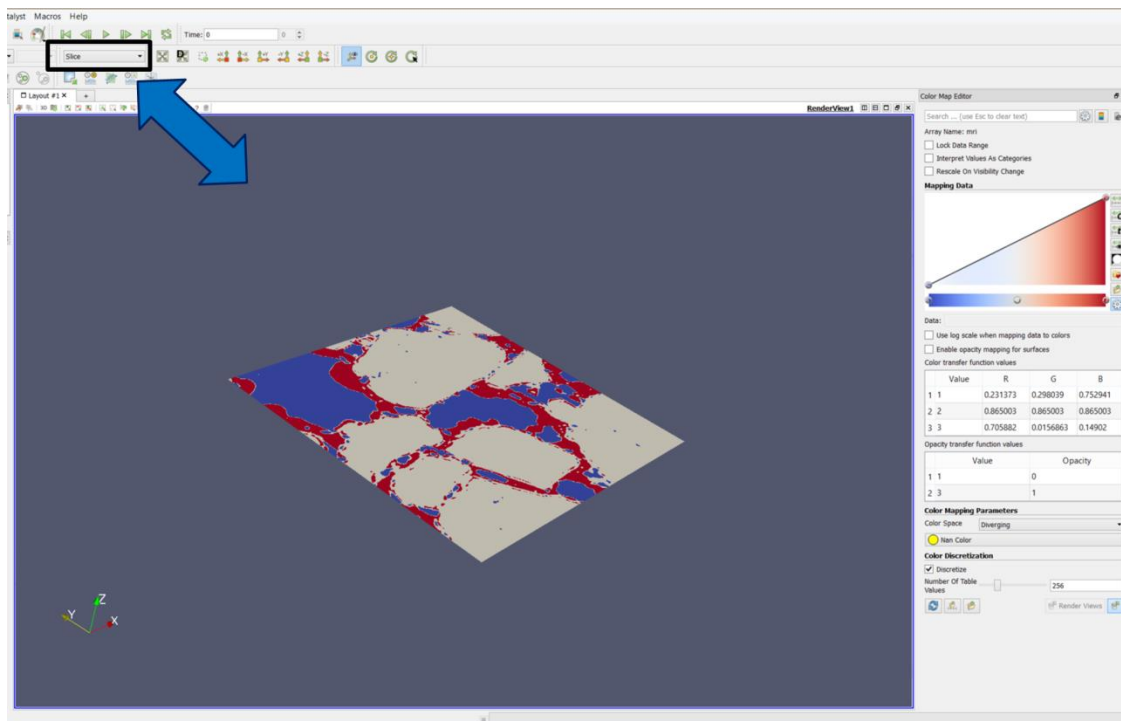

Figure 51: Slice mode in ParaView
- Figure 51: It is **advised** to view the **stack first in slice mode**. This can be done through the dropdown menu, marked in Figure 51 with a black box.